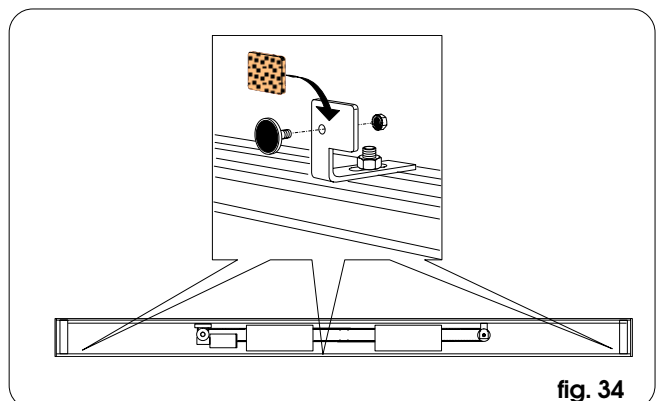
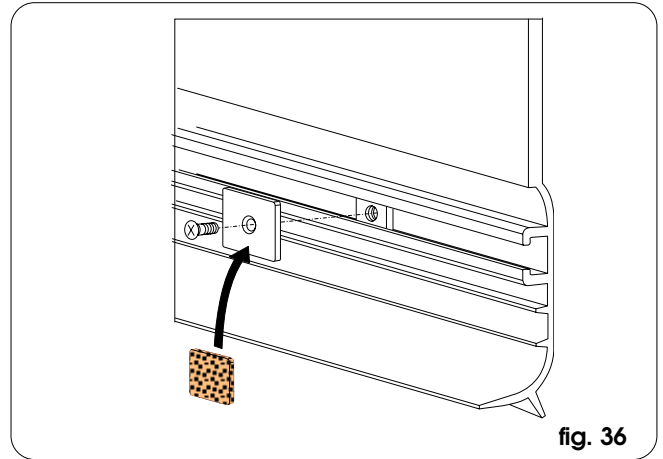

fig. 34
fig. 36
- the three corner sections located at the end and centre of fig. 34 (1 M6 screw for each)
- Fit the three small plates inside the housing (as in fig.36) by the three angled brackets on the head profile.
- velcro applied on the three angled brackets (fig. 34) and on the plates fitted inside the housing (fig. 36);
- magnets to be inserted on the three angled brackets (fig. 34) and on the metal plates fitted inside the housing (fig. 36);